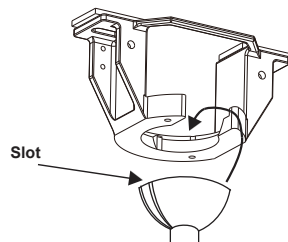

Figure 10
Step 7. Place the downrod ball into the hanger bracket socket. (Fig. 10) And rotate fan and downrod assembly until tab on bracket lines up with slot on ball.